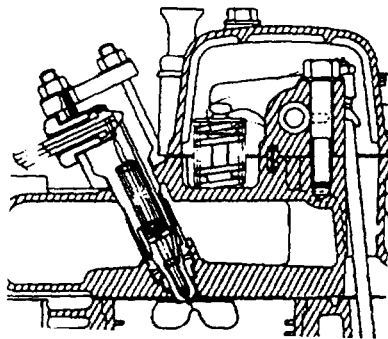

Figure 6-25 Install the fuel Injection valve
- 1) Insert the fuel injection valve (see Figure 6-25).